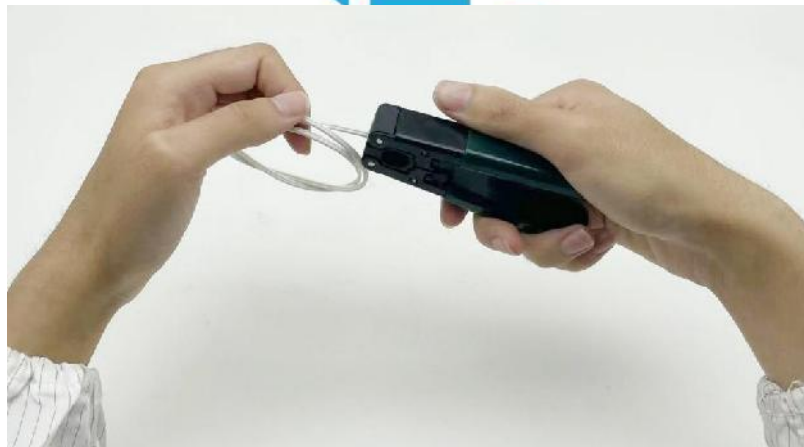

Figure 3.6 Preparation of drop cable
- The white protective layer of the fiber optic cable is stripped by the cable stripper, with a length of 40mm, as shown in Figure 3.6.